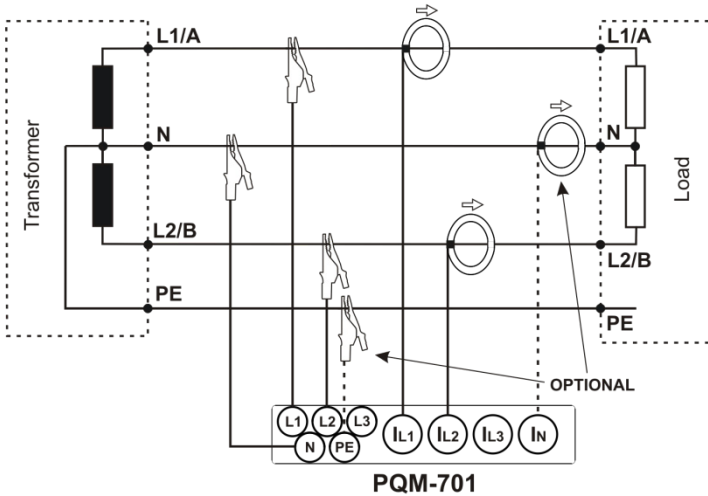

Fig. 5. Connection diagram – split-phase system.
- Three-phase 4-wire wye (Fig. 5),